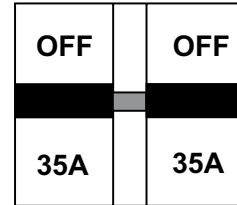

Figure 25. Main Circuit Breaker (OFF)
- Place **main** circuit breaker (Figure 25) in the **OFF** position.